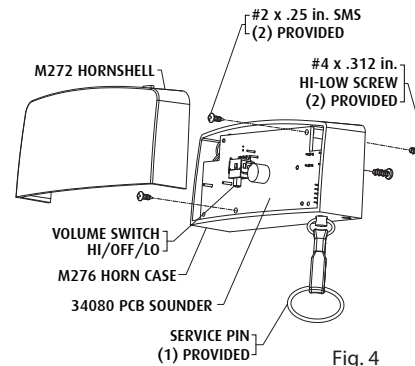

Fig. 4
2. To adjust the volume using the Hi/OFF/Lo switch, remove horn case (see Fig. 4 for location).